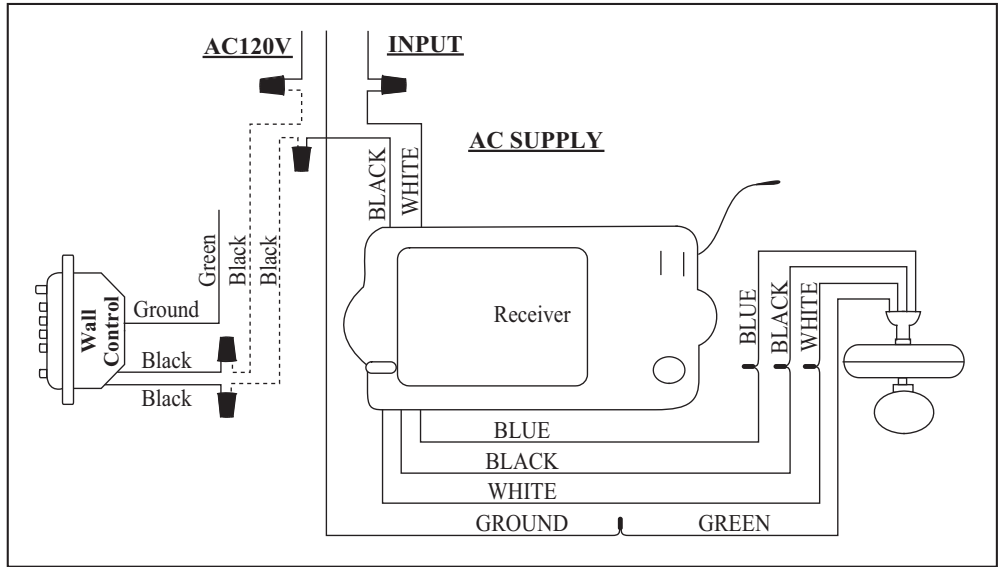

Figure 13
2. Make the electrical connections as shown in Figure 13. If your outlet box has a ground wire (green or bare copper) connect the wall transmitter's ground wire to it; otherwise connect the wall transmitter's ground wire directly to one of the screws from the outlet box.